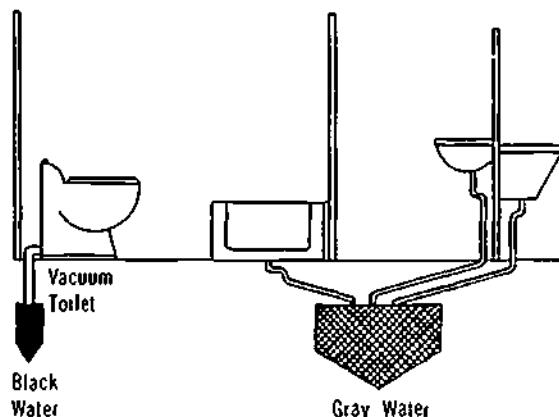

Figure 37-26. The Vacuum-Toilet System
86. With its water consumption of only one litre for a flushing, the vacuum toilet (Figure 37-26) offers these economy advantages: